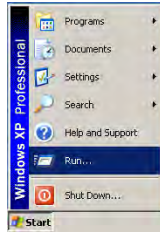

Figure 1-218. Run...
- a. On the Windows taskbar, select **Start** and **Run** (Figure 1-218).